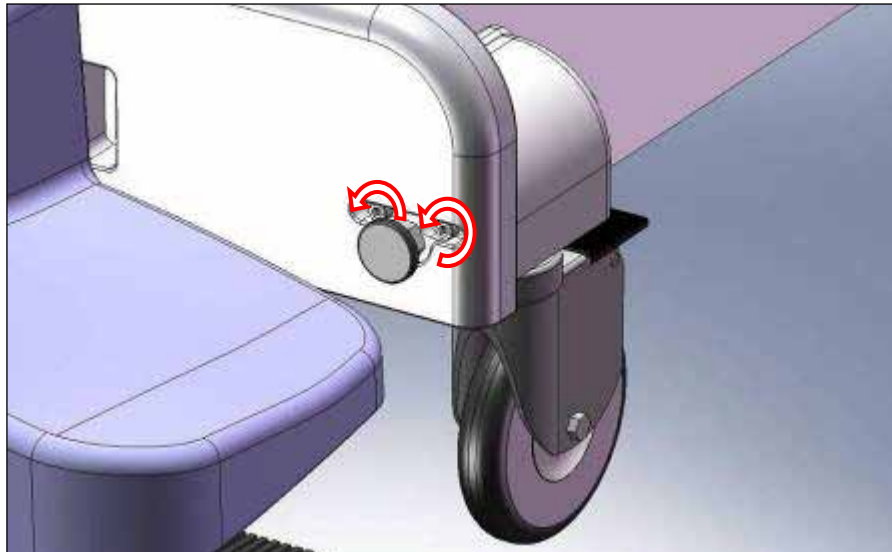

Figure 39
4. The bumper spring plungers of the stretcher bumper must now be centered to the corresponding rubber features of the dock. Take note of the amount that the bumper must be moved in order to centre it. Loosen the four socket head cap screws with a ¼" Allen key (Figure 39).